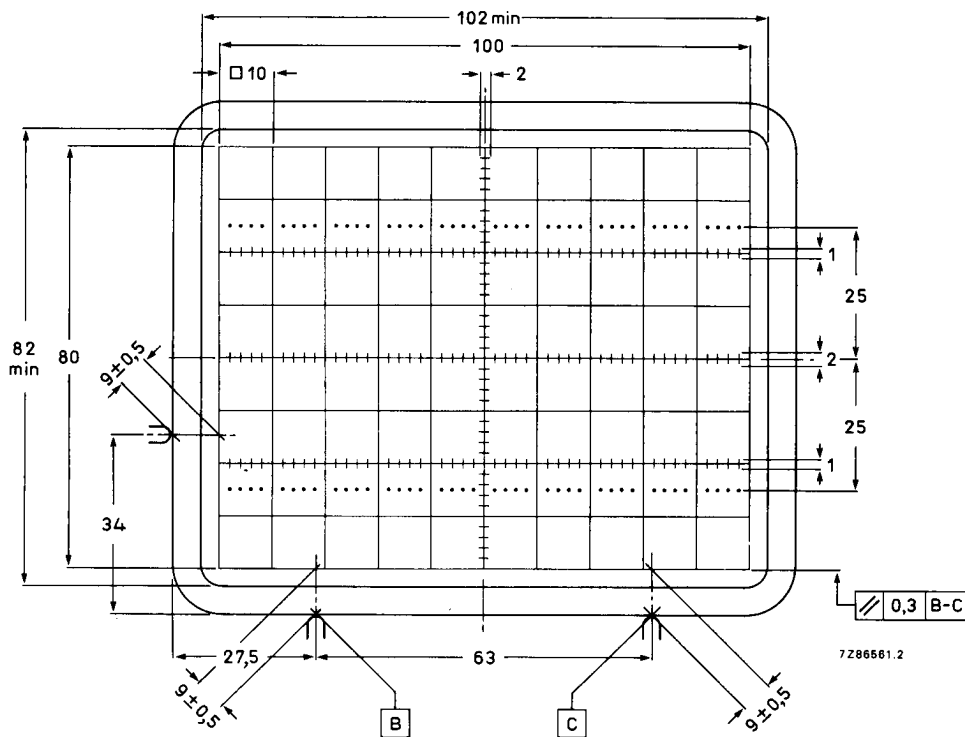

Fig. 5 Front view of tube with internal graticule, type 93. The faceplate reference points are used for aligning the graticule with the faceplate.
Internal graticule	type 93; see Fig. 5
The tube can be mounted in any position. It must not be supported by the socket and not by the base region alone. The reference points on adjoining edges of the faceplate (see Fig. 5) enable the tube to be mounted accurately in the front panel, thus providing optimum alignment of the internal graticule.
4. Reference points on faceplate for graticule alignment (see Fig. 5).
1. As the frit seal is visible through the faceplate, and not necessarily aligned with the internal graticule, application of an external passe-partout with open area of max. 102 mm x 82 mm is recommended. The internal graticule is aligned with the faceplate by using the faceplate reference points (see Fig. 5).